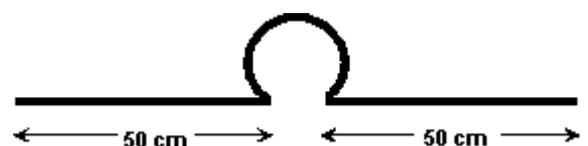

Figure 2. Counterpoises
2. Install Tinned plate (4) on the Dielectric plate. Use Stud, washers, screw - nuts (6).
3. Do Matching spool (3). The spool has 9 turns of 1.5...2.5-mm diameter (# 14- 10 AWG) copper or silvered plate wire. ID of the spool is 15...18-mm, RA1TW use to old markers as a form for the spools. Length of the spool is 34-mm.
5. Do counterpoises. Two 105-cm lengths of copper or aluminum wire of 4...6-mm (# 2...6 AWG) are bended as a Greek letter OMEGA looks (see Figure 2).